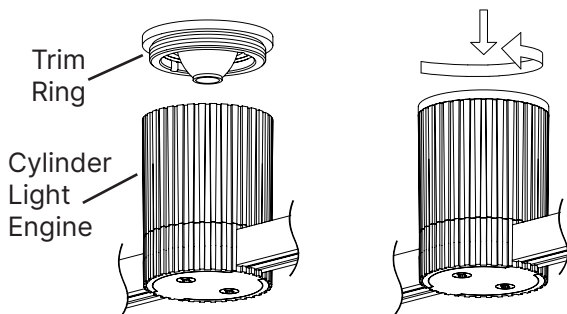

Fig. 6
1. Screw the **Trim Ring** into the **Cylinder Light Engine** (Fig. 6).